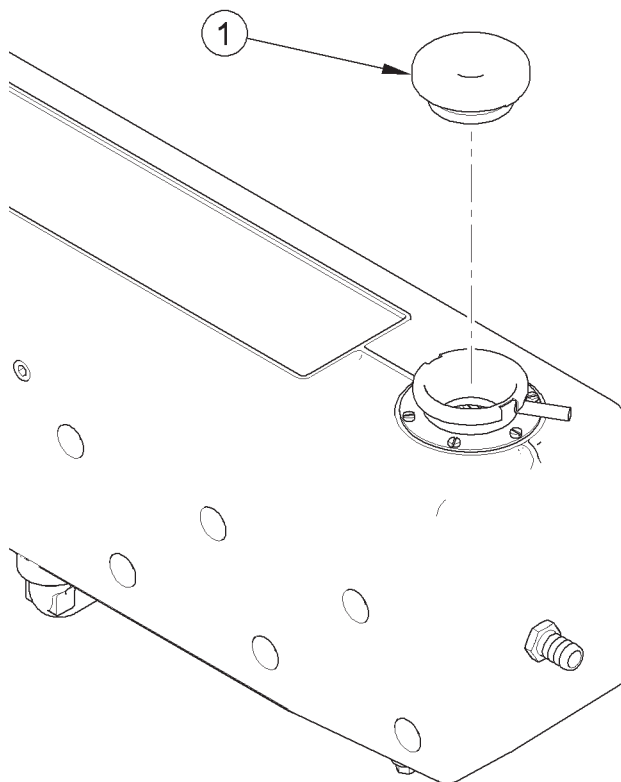

Figure 2
1. Remove the coolant filler cap (figure 2 item 1).